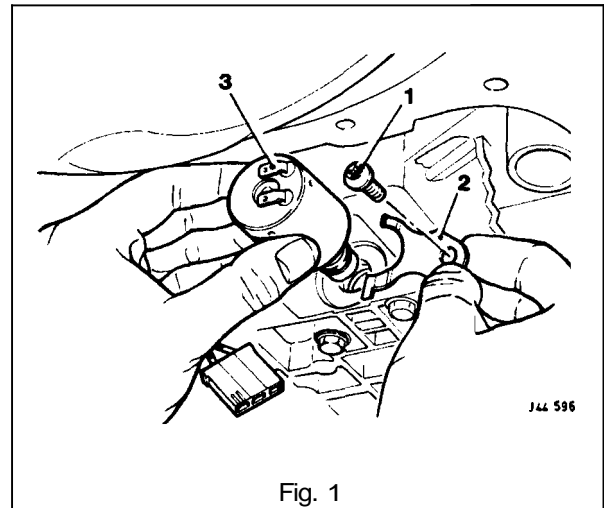

Fig. 1
- Release and remove the motor retaining clamp to valve body securing screw (1 Fig. 1).
- Remove the retaining clamp (2 Fig. 1) and remove the motor (3 Fig. 1) from the valve body and place aside.